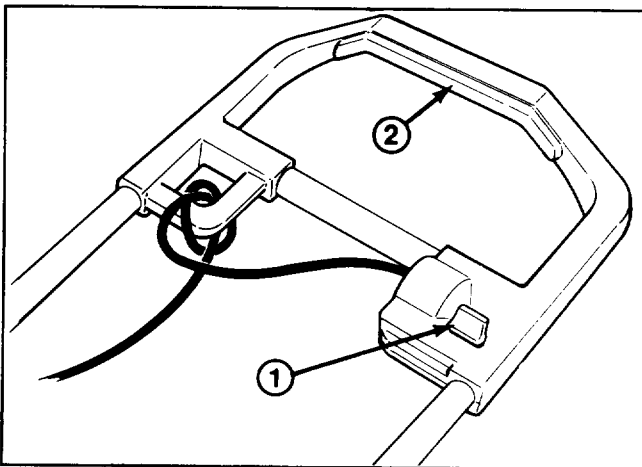

Figure 5
snowthrower; refer to page 4, Figure 5 for proper procedures.
2. Before connecting the extension cord to the snowthrower, tie the extension cord to the loop in the handle as shown in Figure 5. This helps prevent cord separation during operation.
To start rotor, squeeze the control bar. To stop rotor, release the control bar (Fig. 5).